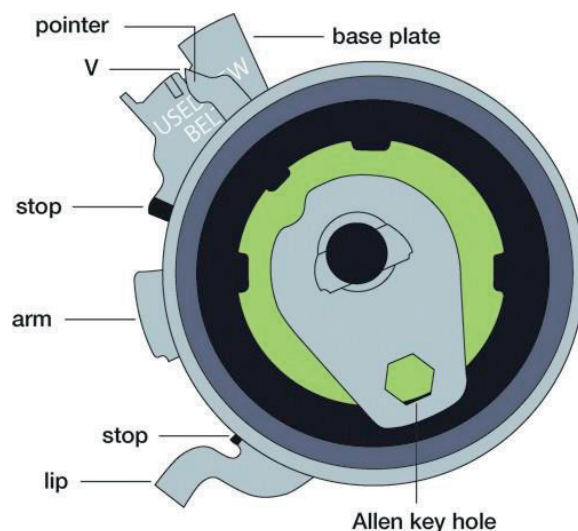

FIG. 3
14. Adjust the tensioner (while holding the tensioner bolt in place), till the pointer is in line with V ("NEW" position); the Allen key hole has to be in +/- 5 o'clock position now (Fig. 3).